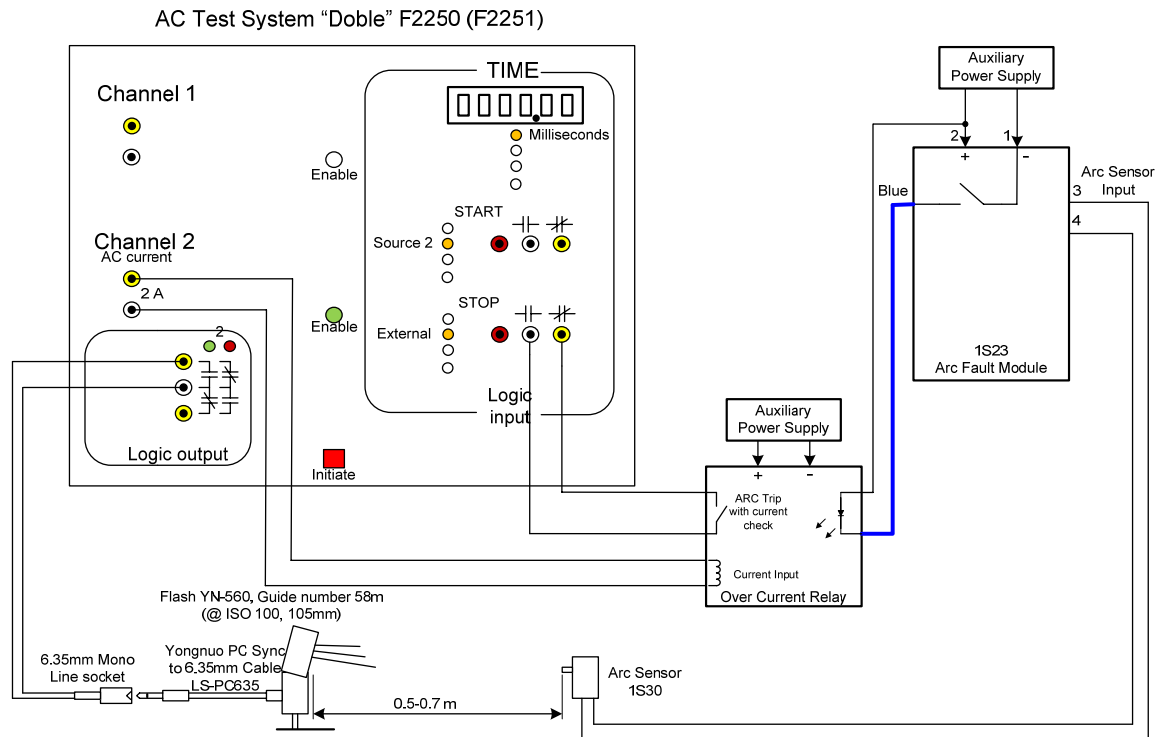

Figure 3: 1S23 (using current check in overcurrent relay) test setup
1. Set up the test as shown in Figure 3. Example shows testing for single sensor operation.